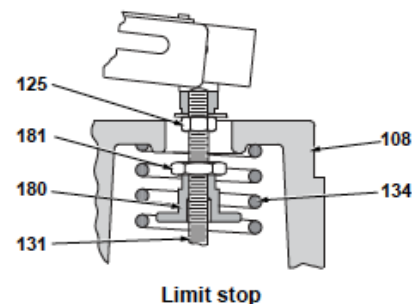

Figure 5
2.4 HANDWHEEL(Figure 5)
(Figures 5, 6, 26, 27 and 29)